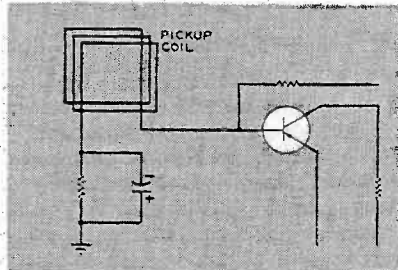

Fig. 16. This circuit can be used to couple pickup coil to transistor stage.
**Pickup loops:** it is possible to transmit audio frequencies over some distance by means of setting up magnetic fields corresponding to the audio signals. This is done merely by feeding the output from an amplifier into a large loop. The loop might be made, for example, to broadcast to a large hall or building. The signal can be picked up by a small loop, and a transistor amplifier used. One typical circuit for coupling the pickup loop to a transistor stage appears in Fig. 16.